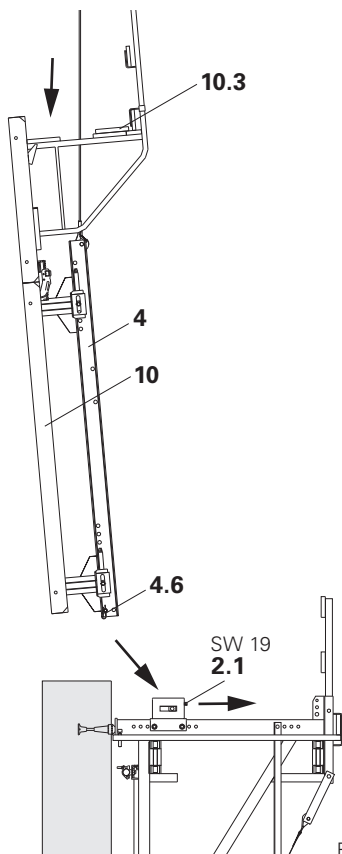

Fig. B2.18
3. Attach formwork unit (10) with concreting platform to the strongback (4) and position on the platform. (Fig. B2.18)
Standard case: use those holes in the strongback facing the wall. (Fig. B2.18)